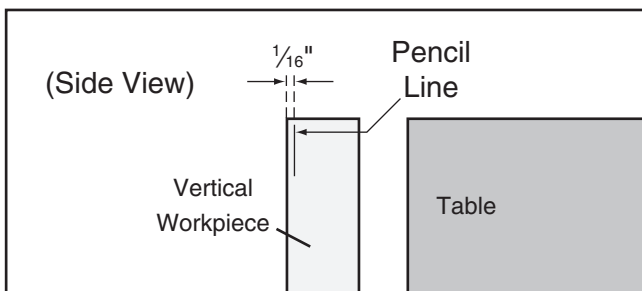

Figure 36. Pencil line location on vertical workpiece.
2. Draw a small pencil line on the edge of the vertical workpiece approximately $\frac{1}{16}$ " from the side of the workpiece (see **Figure 36**).
3. Install the vertical workpiece so the side of the board closest to the pencil line is facing out, as shown in **Figure 36**, and clamp the workpiece into position against the vertical fence.